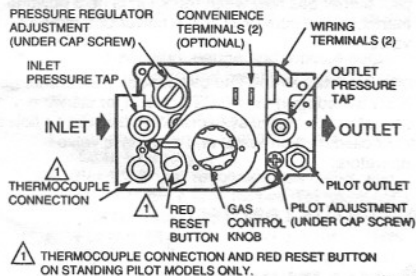

Fig. 1. Top view of VR8200 combination gas control.
2. Remove regulator cap screw and pressure regulator adjusting screw. Refer to Fig. 1.
1. Remove pilot adjustment cap screw. Refer to Fig. 1.
- Remove outlet pressure tap plug from gas control and connect pressure gauge. Refer to Fig. 1.